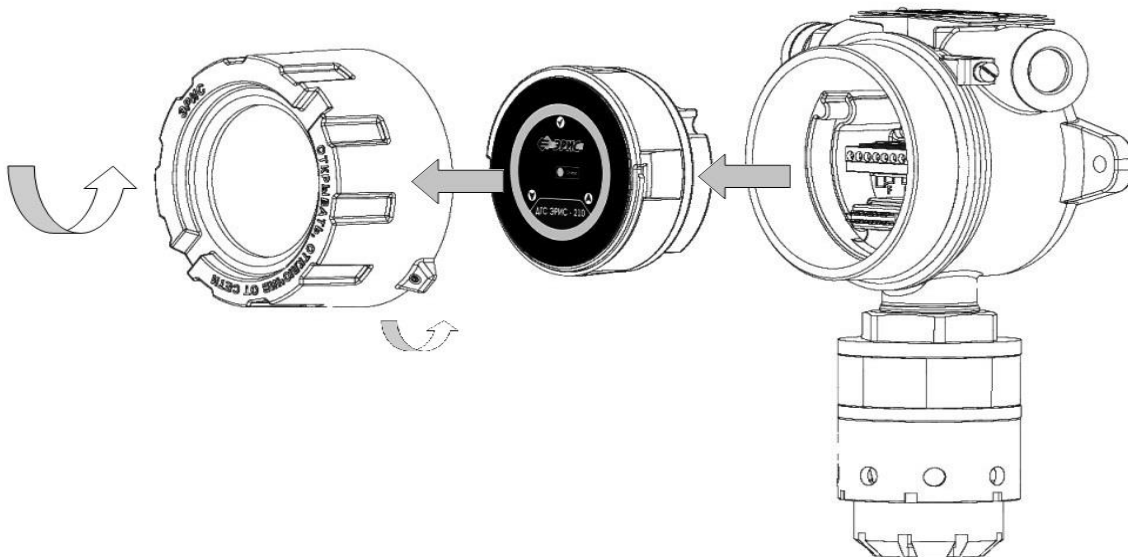

Figure 15– DGS ERIS-210 disassembling diagram
- a. Screw off lock screws in the gas detector cover (Figure 15).